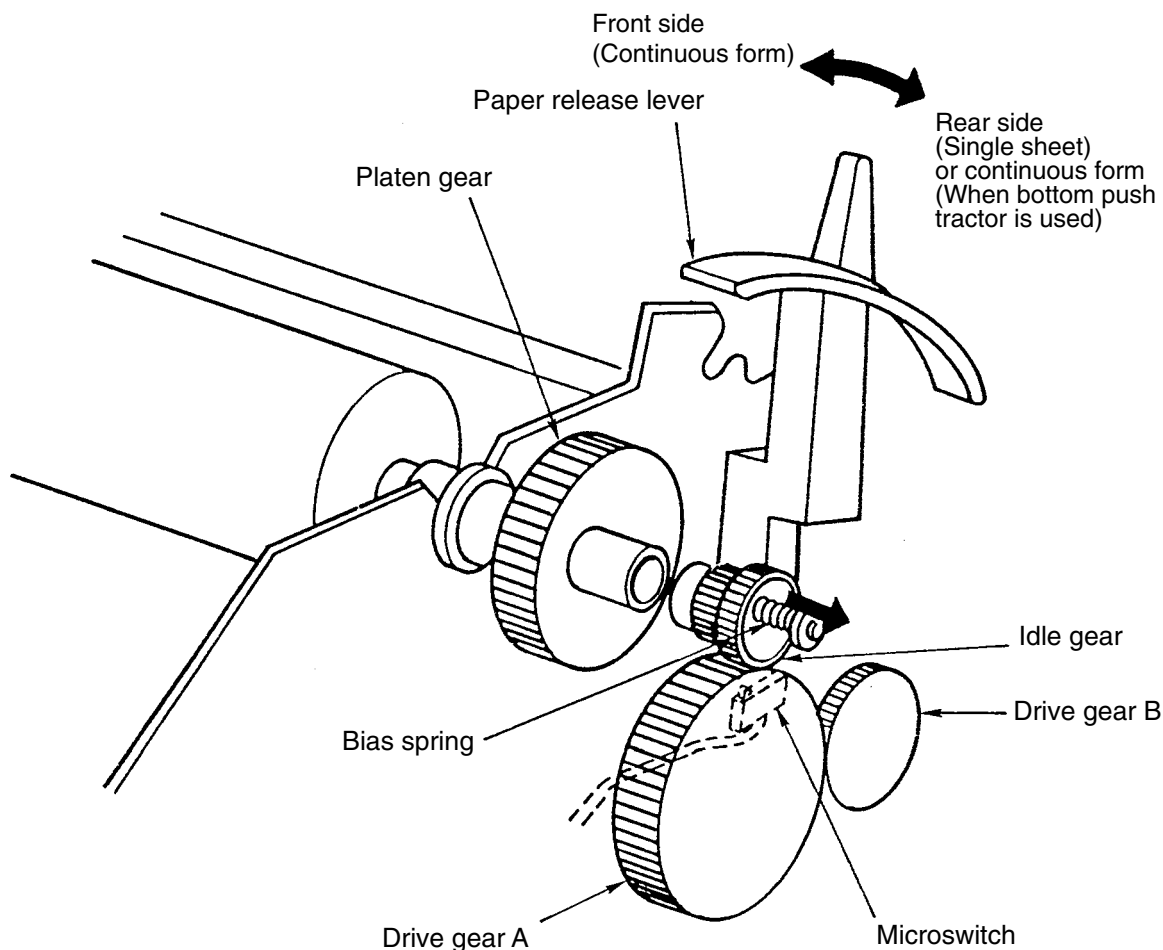

Figure 2.8 Single sheet and continuous form selection
(3) Single sheet and continuous form selection mechanism (See Figure 2.8)